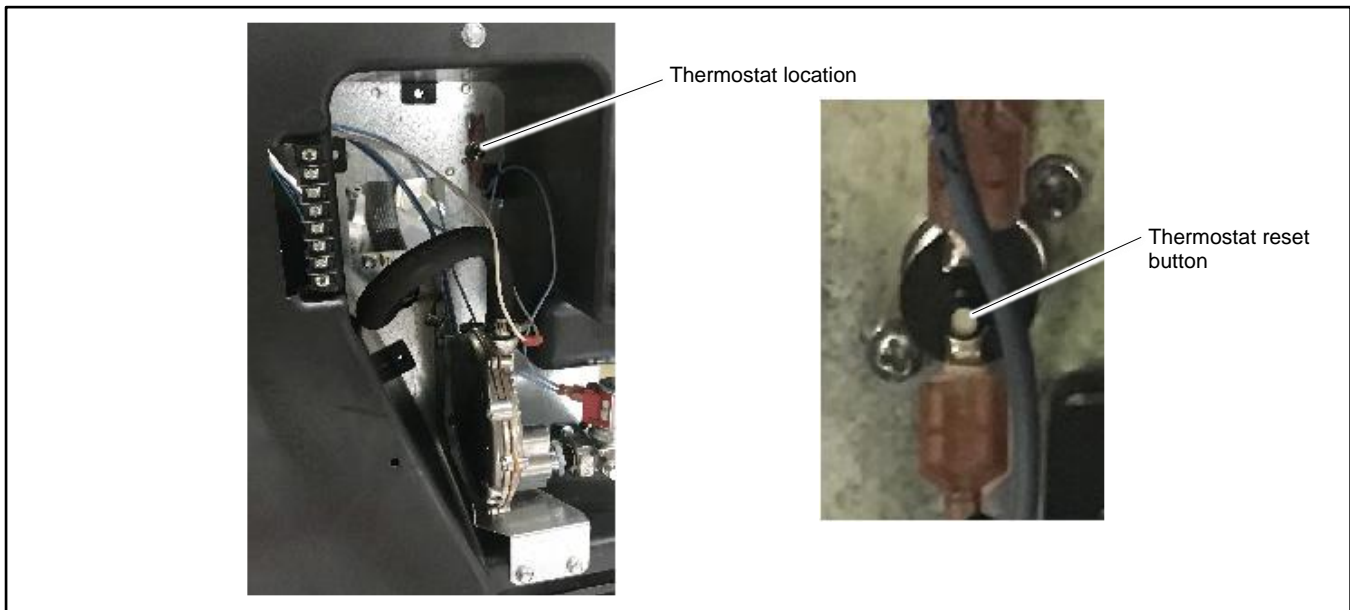

Figure 67 Thermostat
The generator sets include a resettable thermostat. See Figure 67 for the thermostat location in the air intake area, near the fuel system. The thermostat detects excess heat inside the enclosure. If the thermostat trips, the generator will shut down and the controller will display a fault (underspeed, underfrequency, or undervoltage). Check for blocked air inlets and exhaust outlets. Then follow these steps to reset the thermostat.
3. Remove the air intake panel. See Figure 67.